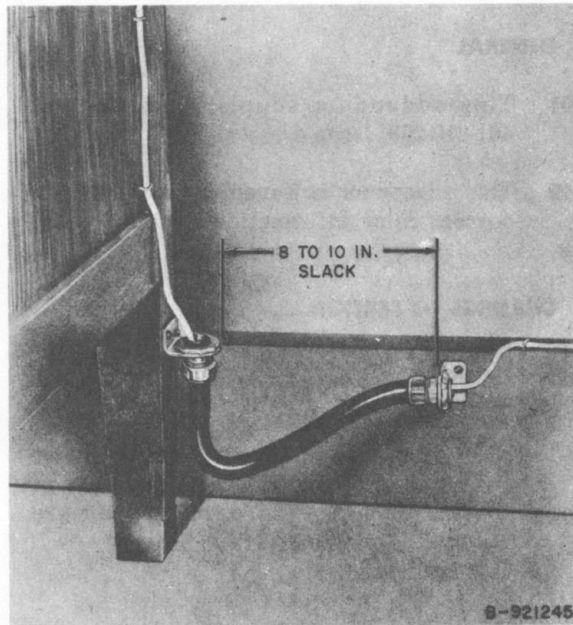
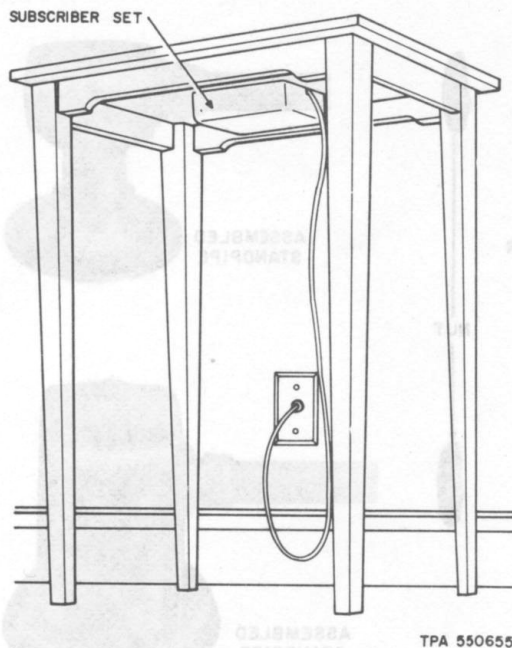

Fig. 1—Wiring to Desk-Station Tubing
Fig. 2—Wiring to Table-Mounting Cord
2.01 When a desk or table is located near a wall, station wire or inside wiring cable may be extended by using C-type station tubing (Fig. 1) or a standard mounting cord (Fig. 2).